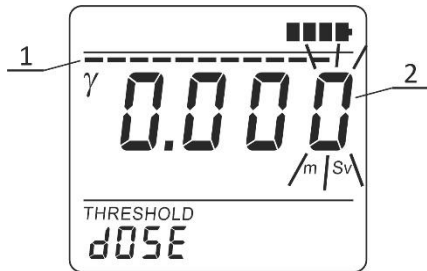

Figure 2.13 – LCD of the radiometer
2.3.3.9.6 If you continue holding down THRESHOLD button, the radiometer enters the programming submode of the new value of the alarm threshold level (Figure 2.13). A stripe (1) “moving” across the instantaneous value indicator and a blinking low-order